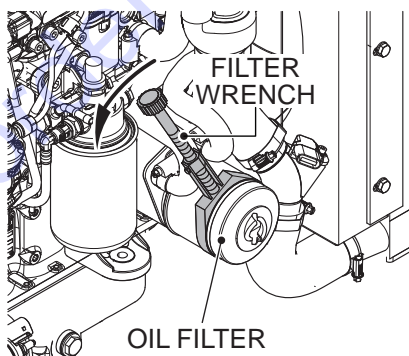

Figure 46. Oil Filter Removal
5. Using a filter wrench, turn the oil filter (Figure 46) counterclockwise to remove.